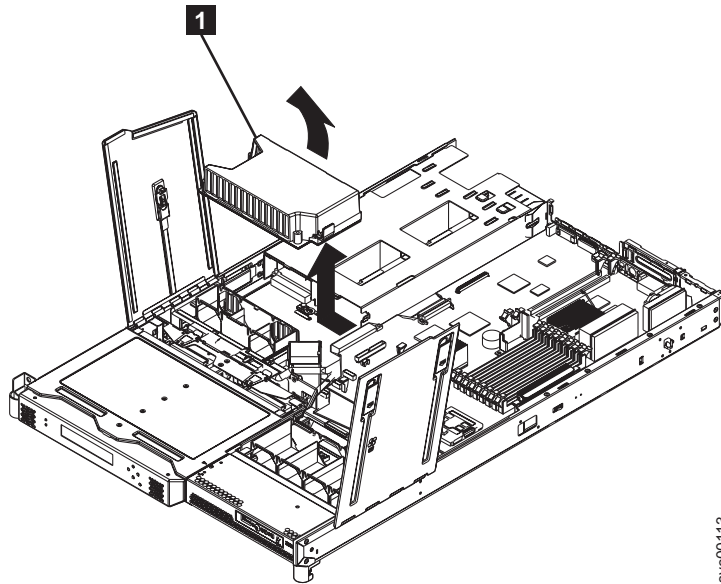

Figure 52. Removing the power backplane
6. Slide the power backplane to the left and disconnect it from the system board. See Figure 52.